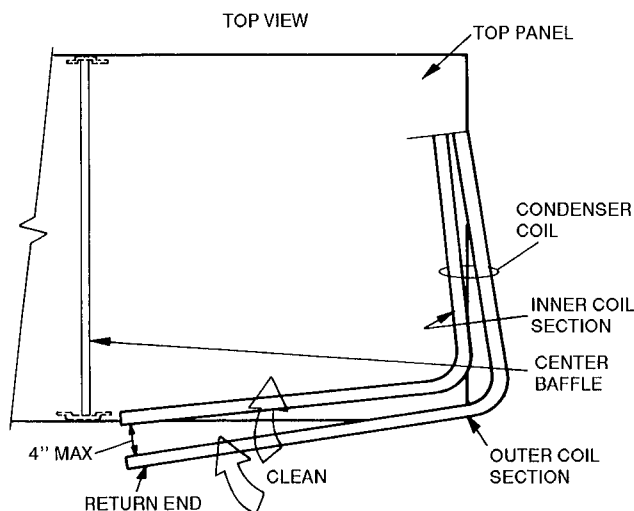

Fig. 31 — Separating Coil Sections
5. Remove fastener holding coil sections together at return end of condenser coil. Carefully separate the outer coil section 3 to 4 in. from the inner coil section. See Fig. 31.